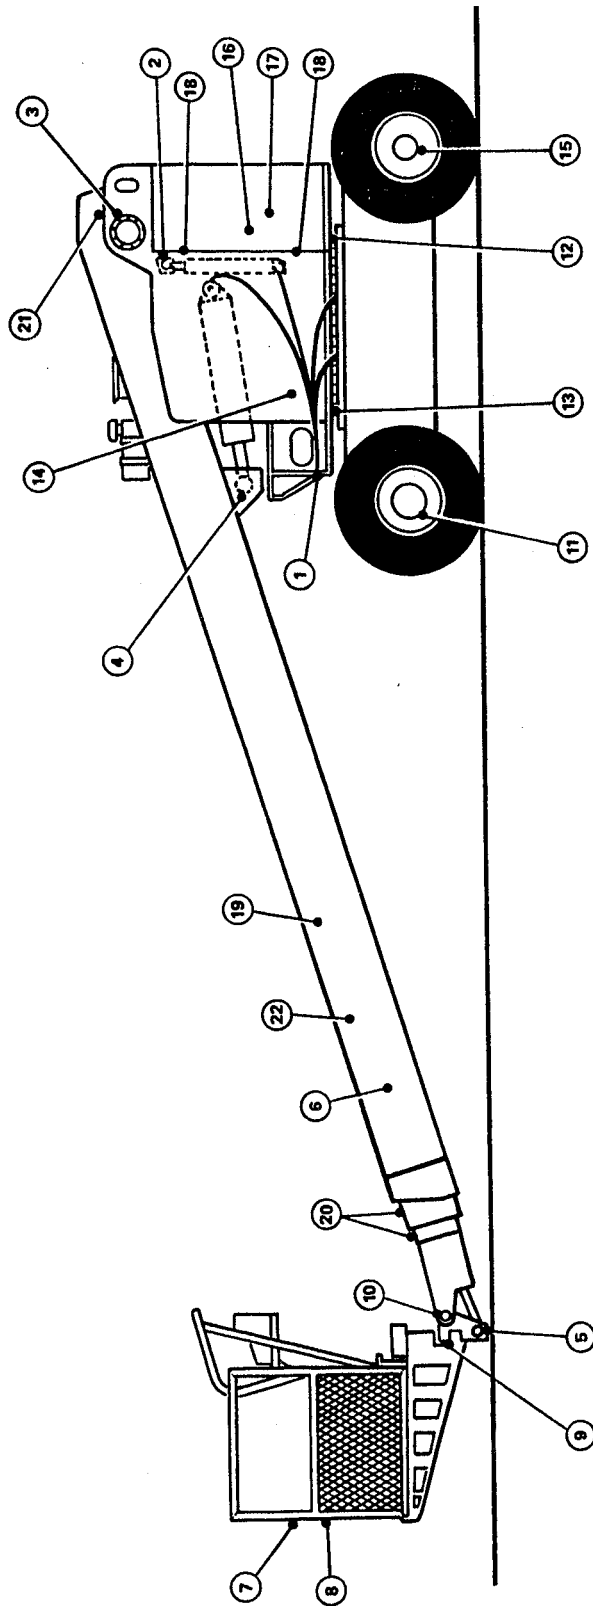

Figure 2-1. Lubrication Chart (Sheet 1 of 2)
- (1). Check all standing surfaces for oil, fuel, and hydraulic oil spillage and foreign objects. Ensure overall cleanliness.
- (2). Keep all information and operating placards clean and unobstructed. Cover when spray painting to protect legibility.
- (3). Ensure a machine operating record is kept, check to see that it is current and that no entires have been left uncleared, leaving machine in an unsafe condition for operation.
- (4). For those items pointed out in the Daily Inspection requiring daily lubrication, refer to the Lubrication Chart (Figure 2-1), for specific requirements.
- (2). Start each day with a full fuel tank. Fill to full mark on sight gauge. Check filler cap is closed and secure.
- (3). Check oil level in engine crankcase. Fill to FULL mark on dipstick - DO NOT overfill. Ensure fill cap is securely in place.
- (4). Check air passageways in engine hood and engine cooling fan for debris or other restrictions.
- (5). Check battery for proper electrolyte level, cables for security, visible damage, and corrosion. Add only clean distilled water - DO NOT overfill. Check cell caps for security.
- (6). Lubricate boom pivot pin, lift cylinder rod-end pin, and platform pivot pin. (Refer to Figure 2-1.)
- (7). Check platform footswitch for proper operation. Switch must be released to start engine and depressed to operate machine.
- (8). Check capacity indicator for correct operation, any damage and that decal is not defaced.
- (9). Check that brakes activate and restrain machine with traveling controls in neutral-engine operating.